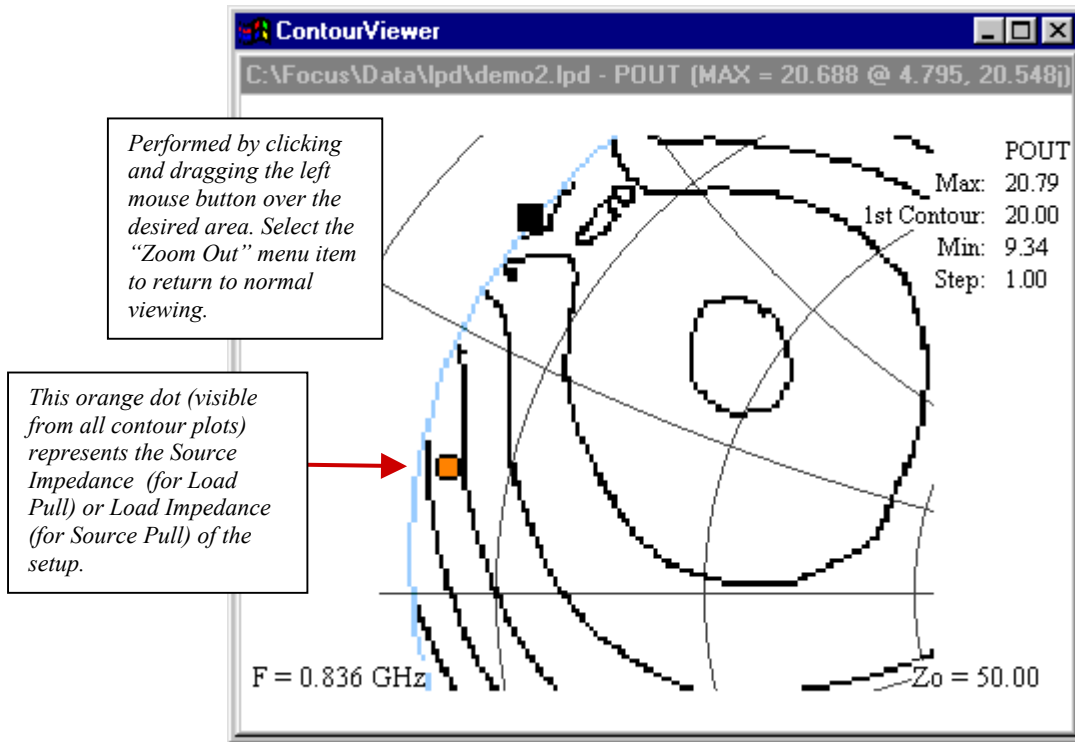

Figure 14: Zoomed-in on a Load Pull Smith Chart Plot
- Zoom-in on any of the 2D or 3D Smith Chart plots (Figure 14).